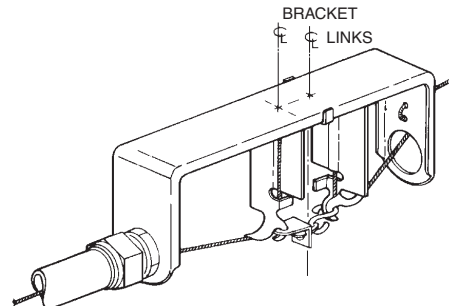

FIGURE 26
12. Position the assembled linkage onto the detector bracket. See Figure 26. (For optimum detection, make certain the solder joint is in the down position.)